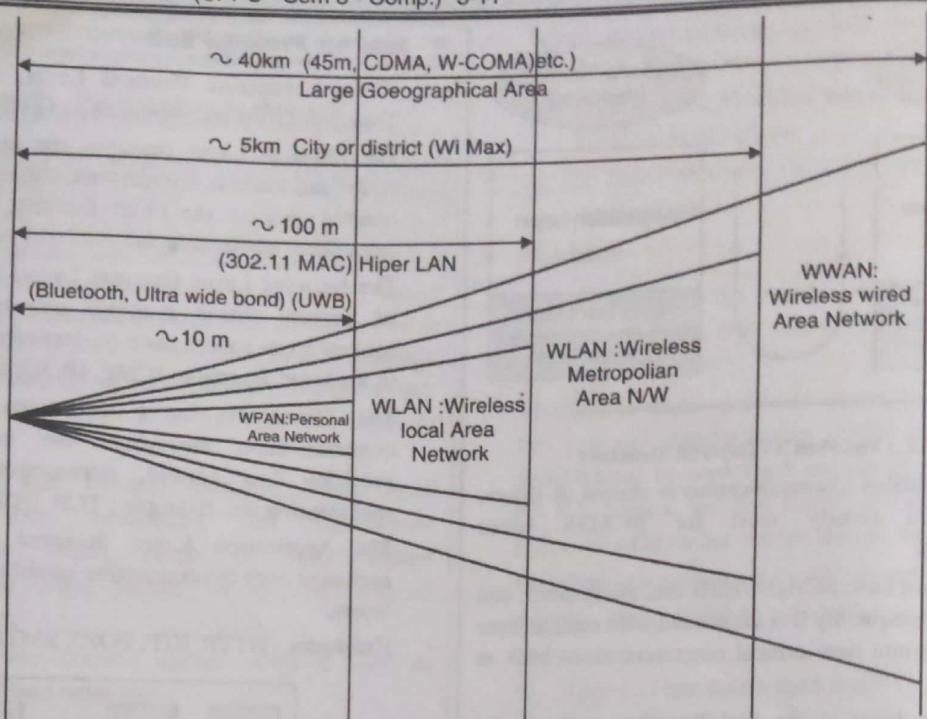

Fig. 3.8.4 : Short range and long range wireless networks
- Fig. 3.8.4 shows the range of wireless communication and the region that should be targeted using these networks.